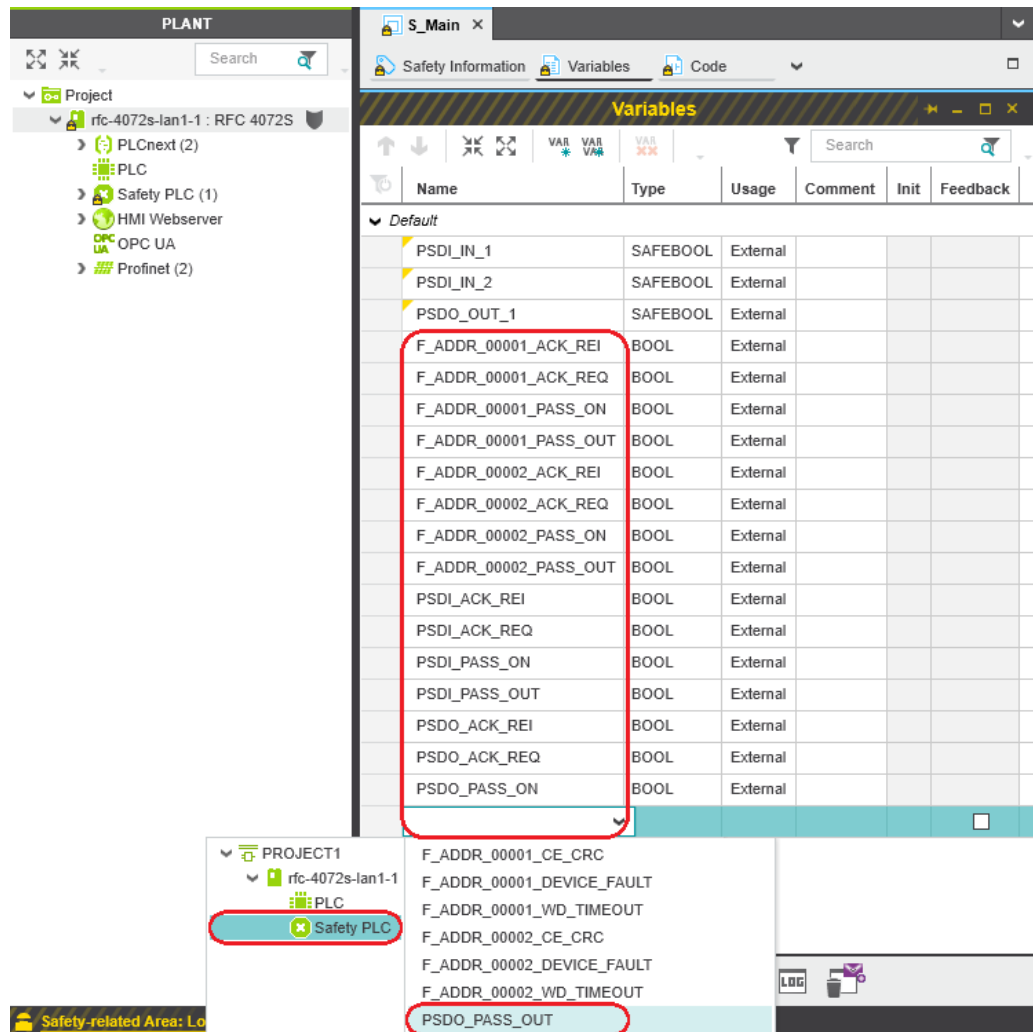

Figure 4-52 Selecting diagnostic/management variables
- Open the selection list by clicking on the arrow in the “Name” field (see Figure 4-52).
- Repeat this step for all the diagnostic/management variables and exchange variables shown in Figure 4-52.